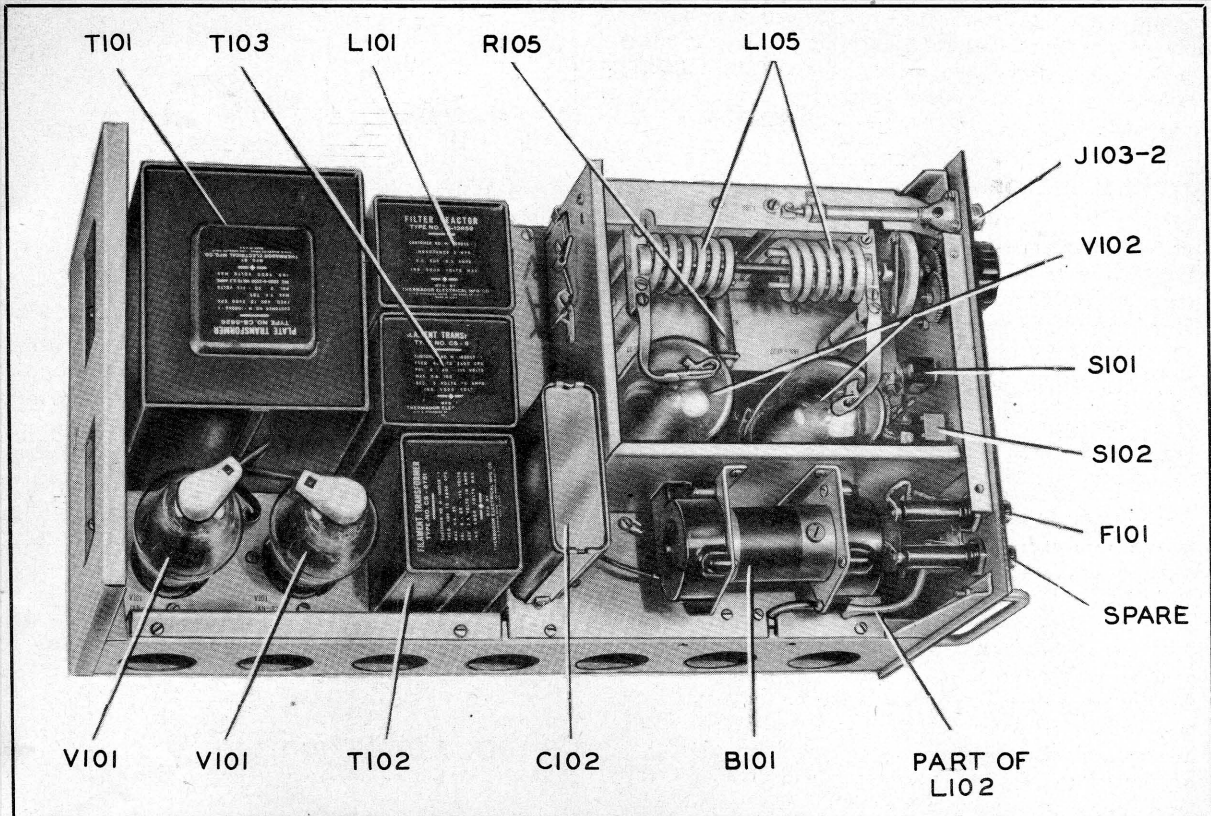
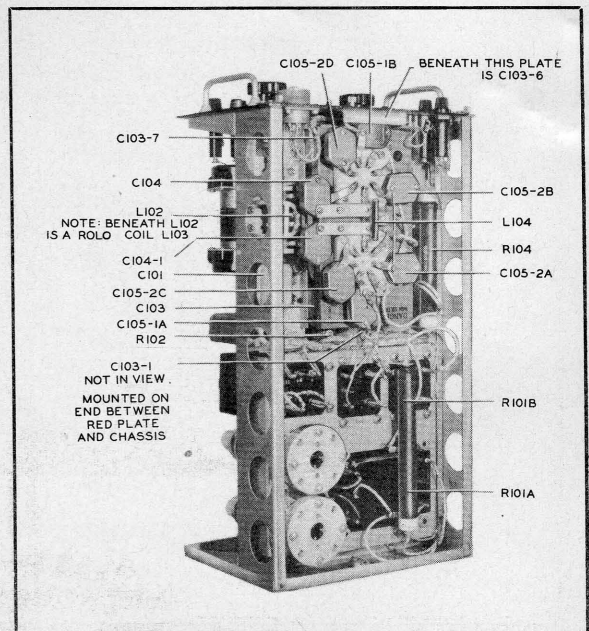
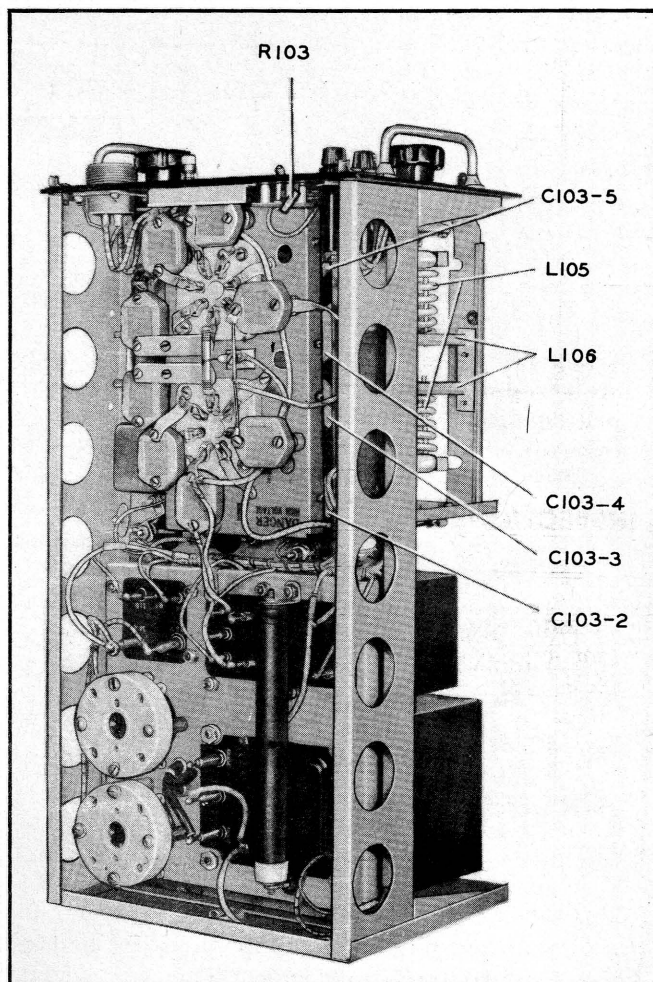

Figure 4-2. Radio Frequency Amplifier AM-14/APT—Top View
Figure 4-3. Radio Frequency Amplifier AM-14/APT—Bottom Viewed from Right
Figure 4-4. Radio Frequency Amplifier AM-14/APT—Bottom Viewed from Left
a. A high voltage rectifier power supply composed of power transformer T101 supplying alternating voltage to the plates of the two rectifier tubes (see fig. 4-2), which operate into a single section choke input filter L101 and C102. (See figs. 4-2 and 8-1.) The positive side of the power supply is grounded through resistor R102. This unit is capable of delivering a current of 300 milliamperes at 1800 volts d-c. Filament current for the rectifier is obtained from the rectifier filament transformer T102. (See figs. 4-2 and 8-5.)
b. A filament heating transformer T103 (fig. 4-2) supplies filament power to the amplifier tubes.
b. Radio frequency power is delivered to the grids of the power amplifier tubes through an unbalanced to balanced r-f transformer L102, the tuning inductance L103, and grid blocking condenser C104. (See figs. 4-3 and 8-5.) Bias is obtained from the negative leg of the power supply through resistor R104 and radio frequency choke L104. Screen voltage from the power amplifier tubes is obtained through a tap on bleeder resistor R101. The suppressor grids are connected to one side of the filament circuit. The plate circuit of the power amplifier consists of the output tuning inductance L105. Resistor R105 (see fig. 4-2) serves as a parasitic suppressor and at the same time provides a direct current path in the plate circuit. The output circuit consists of coupling loop L106 (see figs. 4-4 and 8-5) and is connected to feed an unbalanced transmission line.
a. **PLATE ROLO COILS.**—The power amplifier plate tuning coil L105 (see fig. 4-2) is a rolo coil wound in two sections. Extending through the center of the coil is a common shaft and on each side of this shaft, but extending only the length of each coil section, are stub shafts on which are mounted contact wheels or rollers. As the common shaft is turned by the tuning knob, the stub shafts are rotated about the common shaft, and the contact wheels follow the turns of wire. The contact wheels act as movable taps, thus allowing the inductance of the coil to be varied. (See fig. 4-2.)
b. **GRID ROLO COILS.**—The power amplifier grid tuning coil L103 (see fig. 4-3) is a rolo coil wound in two sections on an insulated form. Extending through the center of the form is a common tuning shaft which turns in bearings mounted at the ends of the coils. The coil ends are connected to slip rings which are securely mounted on the coil form. Metallic brushes held against the slip rings by spring pressure provide electrical contact to the coil. On one side of each coil section is an external stub shaft on which are mounted contact wheels or rollers. As the common shaft is turned with the turning knob, the contact wheels follow the turns of wire and allow the inductance of the coil to be varied.